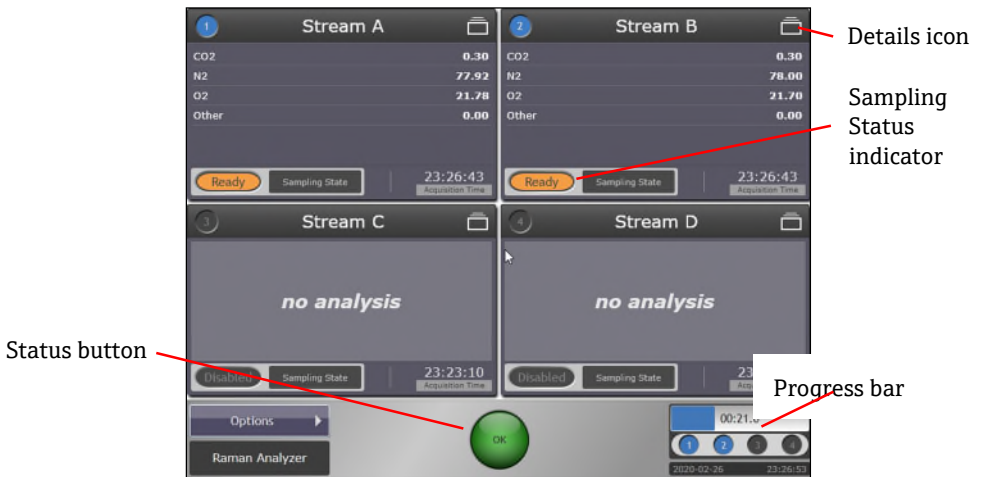

Figure 13. Raman Rxn5 main screen
The main screen of the user interface displays the most recent results for each of the four streams. See Figure 13. Each stream's data is displayed in a separate quadrant.
The **Status** button is located at the center bottom of both the Main Screen and the Stream Detail View. See Figure 13. **Green** (OK) indicates the status is normal, **Yellow** (Warning) indicates at least one item is in a warning state while no items are in an error state, and **Red** (Error) indicates at least one item is in an error state.